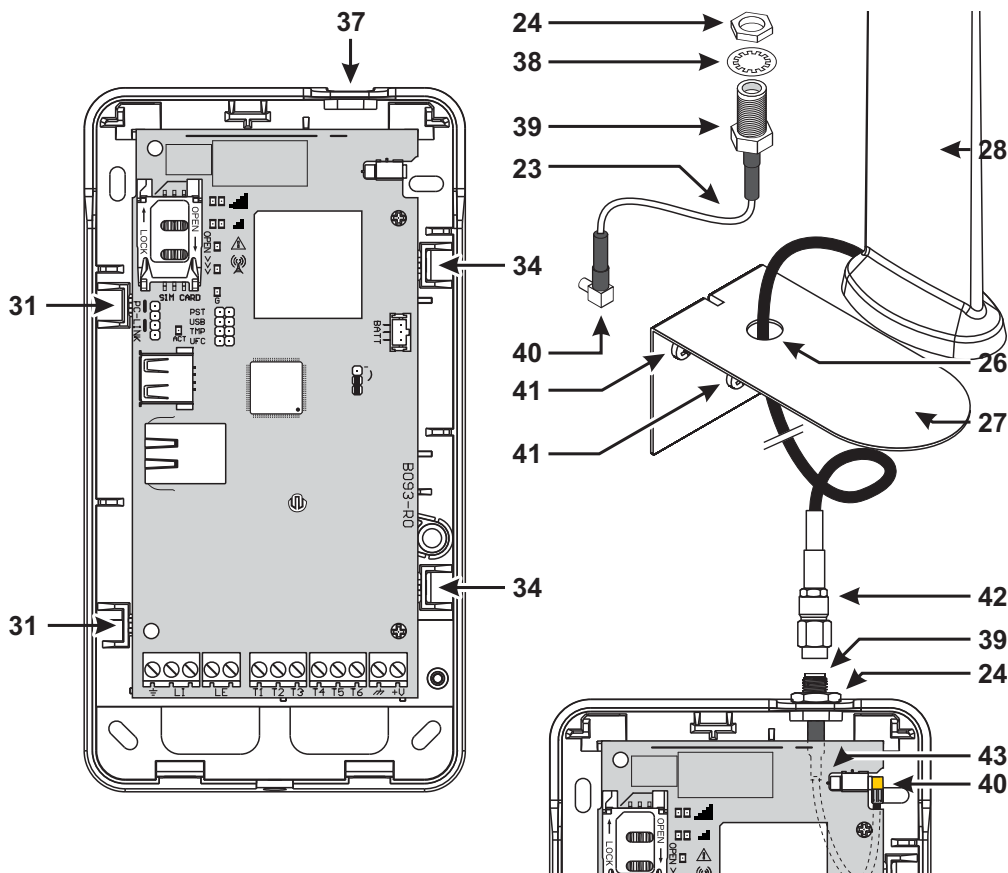

Figure 5 – Installing the antenna ANTLTE-02.
The **ANTLTE-02** has greater gain than the communicator's integrated antenna in the version with housing, and can be mounted indoors within 2 meters of the communicator, to improve cellular reception, as described below and shown in figure 5.
**Make sure the adapter cable is routed as shown in figure 5.**